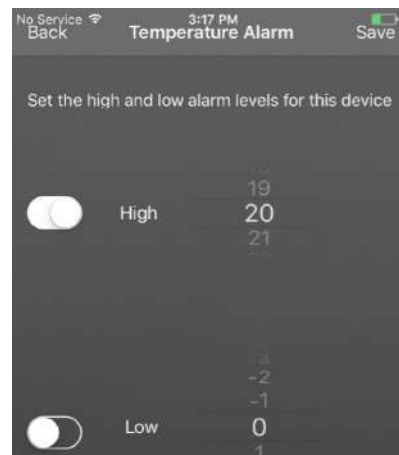

Fig. 4
6. Temperature Alarms - Set the high and low alarm thresholds (See Fig. 4).